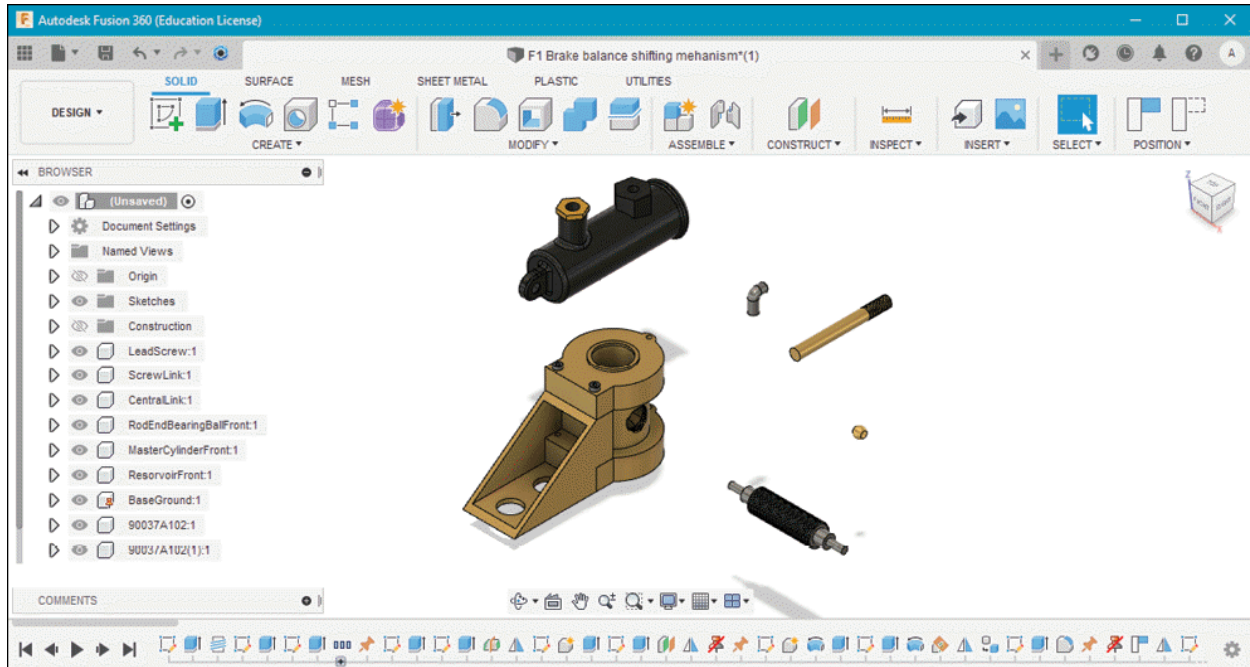

Figure-81. Fusion 360 startup window
- Double-click on **F1 brake balance shifting mechanism.f3d** file. The file will open in **Autodesk Fusion 360** software; refer to Figure-81.